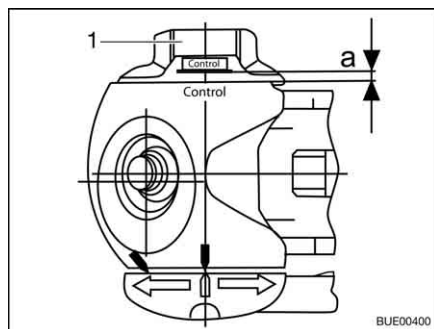

Fig. 188 Friction control
- Turn the handwheel (Fig. 188,1), until it can be heard and felt that the torque limiting mechanism grates. Direction of rotation: In a clockwise direction.
- Distance $a > 0$ (Fig. 188): Wear within the permissible range.